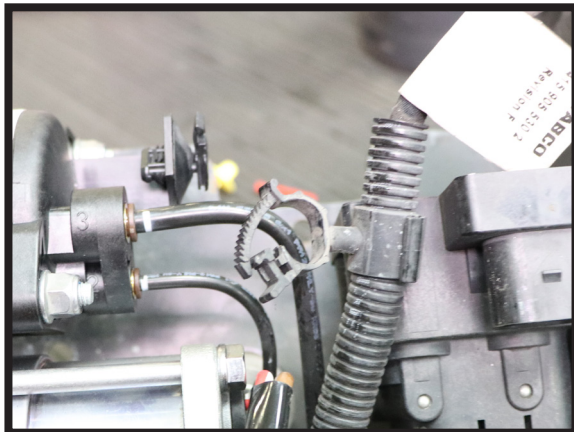

FIGURE 30
6. CLIP THE NEW COMPRESSOR PLUG TO THE EXISTING HARNESS ON THE ASSEMBLY. (FIGURES 30, 31)